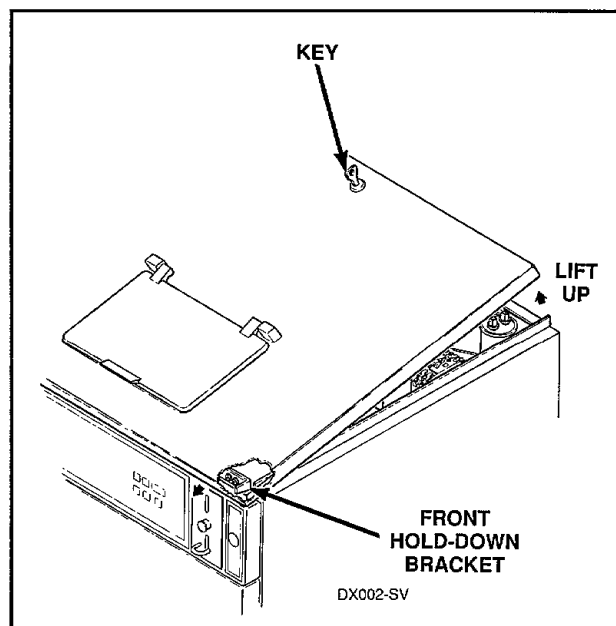

Figure 2
- b. Insert key into cabinet top lock and unlock, *Figure 2*.
- c. Lift up on rear of cabinet top, *Figure 2*.
- d. Slide cabinet top forward far enough to release the cabinet top from the two front hold-down brackets, *Figure 2*. Set cabinet top out of the way.
- Insert key into cabinet top lock and unlock, *Figure 2*.
- Lift up on rear of cabinet top, *Figure 2*.
- Slide cabinet top forward far enough to release cabinet top from the two front hold-down brackets, *Figure 2*. Set cabinet top out of the way.
- d. Slide cabinet top forward far enough to release cabinet top from the two front hold-down brackets, *Figure 2*. Set cabinet top out of the way.